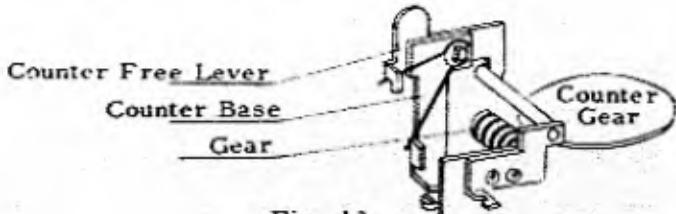

Fig. 13
3) When Counter Free Lever is positioned at the same place as Counter Base 39-9857, the Gear and Counter Gear should be completely disengaged. See Fig. 13.